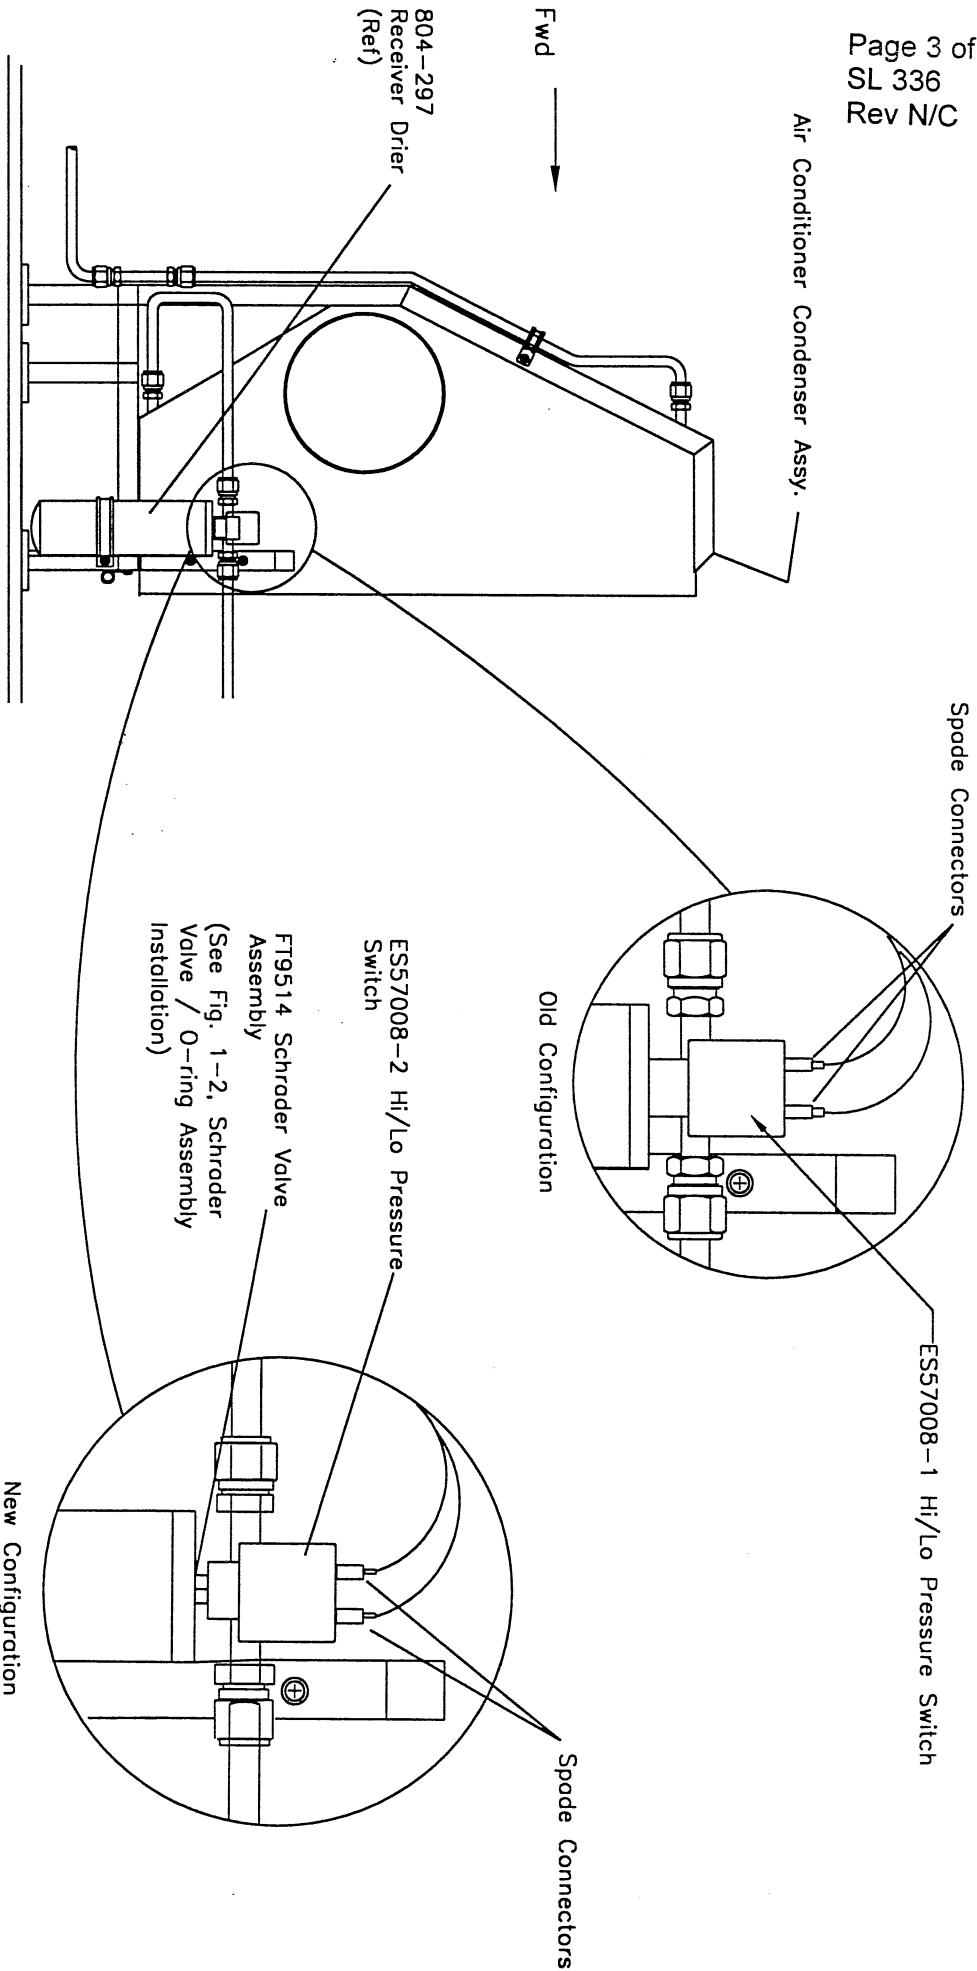

Fig 1-1, View Looking Inboard From Aircraft Right.
3. Remove the two (2) spade connectors from the top of the ES57008-1 Hi/Lo Pressure Switch. (See Fig. 1-1)
3. Re-install the two (2) spade connectors to the top of the ES57008-2 Hi/Lo Pressure Switch. (See Fig. 1-1)